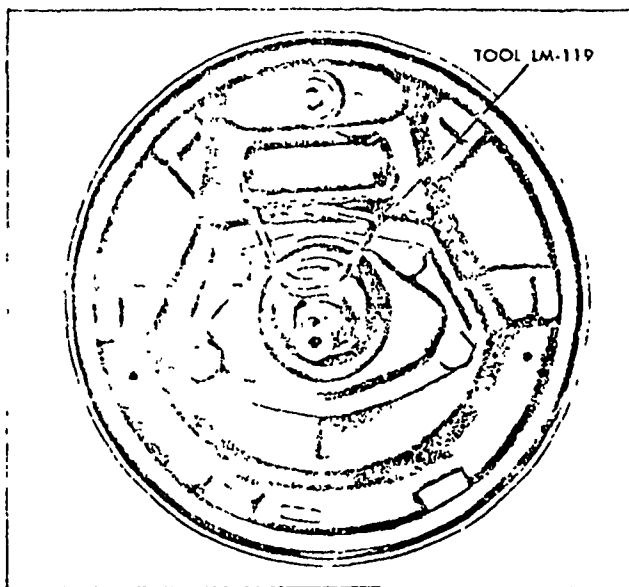

Fig. 2-20. Piston Retaining Clamp Installed—(9L-2403)
If 24,000 miles of operation are on the brake linings or if leaks or signs of overheating are noted, it is recommended that the wheel cylinders be disassembled and inspected. The cylinder cups should be replaced upon disassembly. If the wheel cylinders do not require attention, install a Wheel Cylinder Piston Clamp, Tool LM-119, to hold the piston in place. (See Figure 2-20.)
3. Install the Piston Retaining Clamp, Tool 1M-119 (Refer to Figure 2-20.)